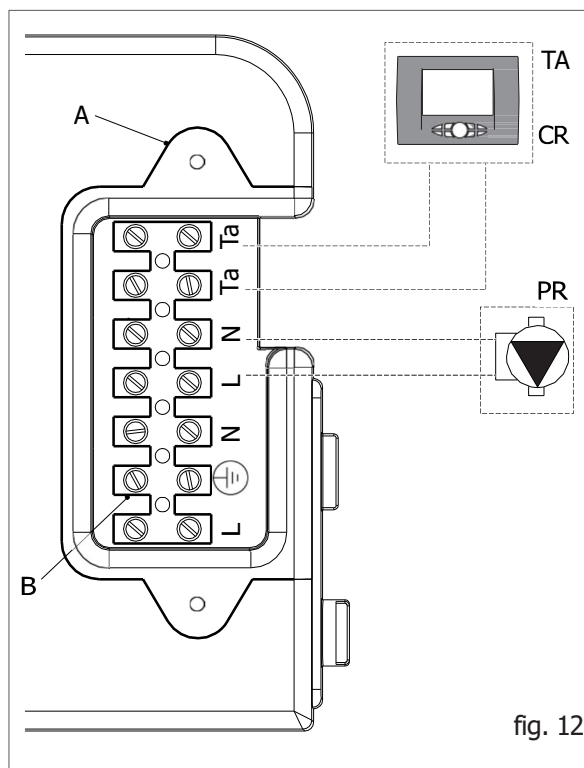

fig. 12
- > unscrew the screws and remove plate "A" (see fig. 12).
- > After removing the plate, connect the electrical cables to terminal "B" (see fig. 12):